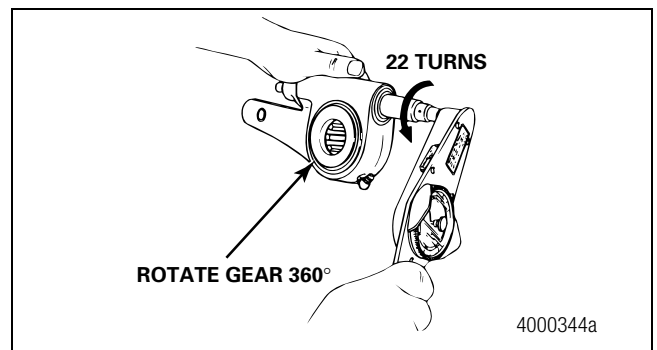

Figure 3.12
4. Check the slack adjuster gear torque. Use a lb-in torque wrench and turn the adjusting nut COUNTERCLOCKWISE (Figure 3.12) to rotate the gear 360 degrees, or 22 turns of the wrench, as you read the torque scale on the wrench. The value should be less than 25 lb-in (2.83 N•m) as you rotate the gear.